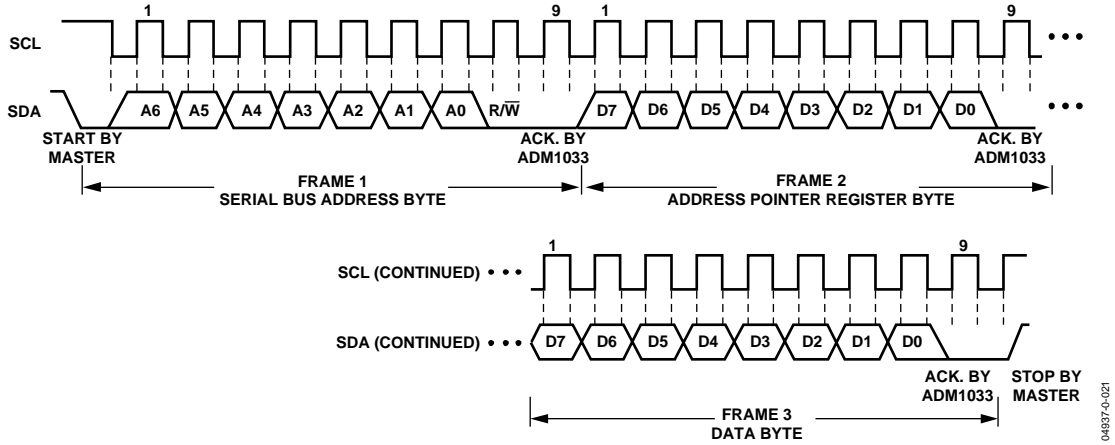
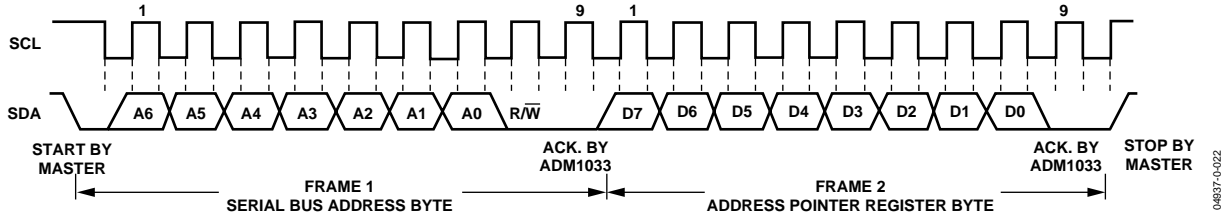
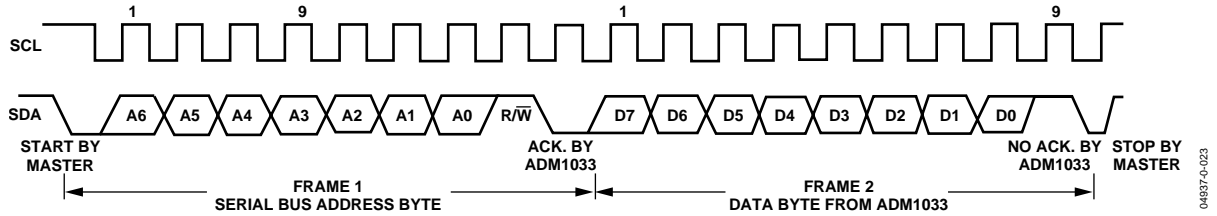

Figure 18. Writing a Register Address to the Address Pointer Register, then Writing Data to the Selected Register
Figure 19. Writing to the Address Pointer Register Only (Send Byte)
Figure 20. Reading Data from a Previously Selected Register
As shown in Figure 18, the device address is sent over the bus, followed by $\overline{R/W}$ set to 0. This is followed by two data bytes. The first data byte is the address of the designated internal data register, which is stored in the APR. The second data byte is the data to be written to the internal data register.
- If the ADM1033's APR value is unknown or incorrect, it must be set to the correct value before data can be read from the desired data register. To do this, perform a write to the ADM1033 as before; but this time send only the data byte containing the register. (See Figure 19.) A read operation is then performed. With the serial bus address and the $\overline{R/W}$ bit set to 1, the data byte is read from the data register. (See Figure 20.)
- If the APR is known to be already at the desired address, data can be read from the corresponding data register without first writing to the APR. In this case, Figure 19 can be omitted.
In Figure 18 to Figure 20, the serial bus address is determined by the state of the LOCATION pin on power-up.